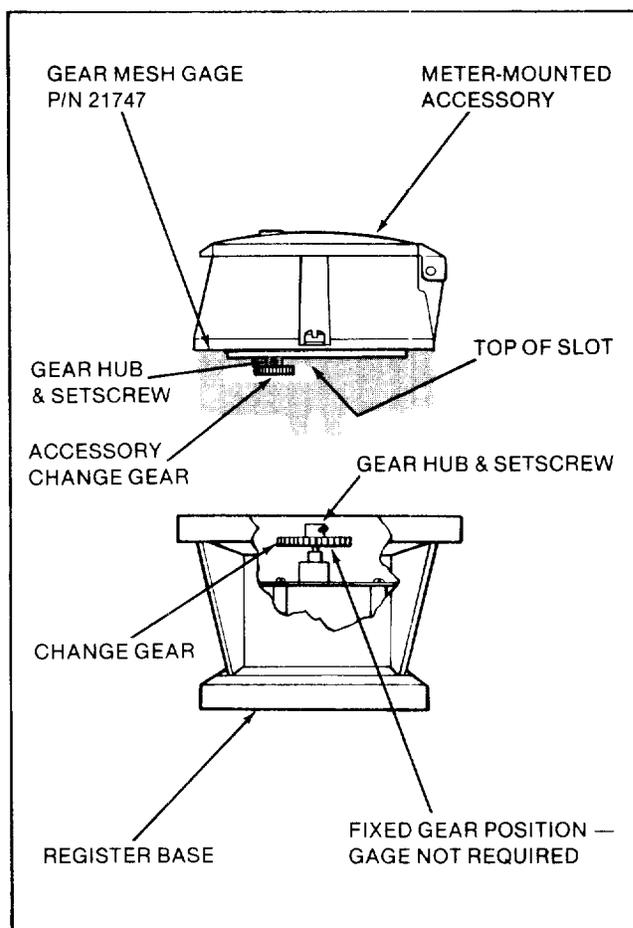

Figure 4-4. Replacing Turbo Meter Change Gears Register Base and Register (or Accessory)
- (a) Place the bottom of the register on the top edge of the gage (See Figure 4-4).